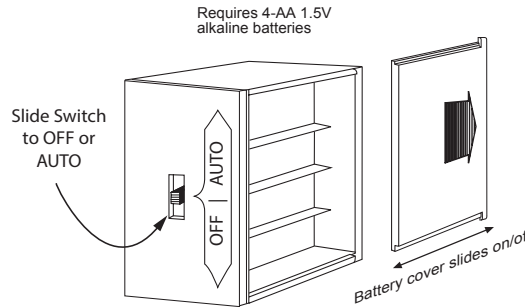

Fig. 4 Installing AA batteries.
Step 2: Install the (4) AA batteries into the transmitter. Fig. 4